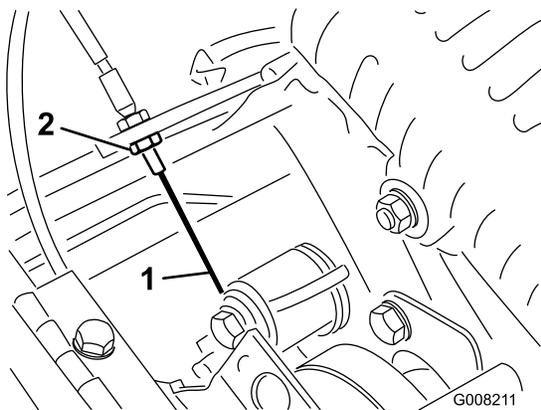

Figure 46
3. To increase the cable tension, loosen the front cable jam nut and tighten the back cable jam nut (Figure 46) until a force of 7 to 9 lbs (3 to 4 kg) is required to engage the traction control. Measure the force at the control knob.